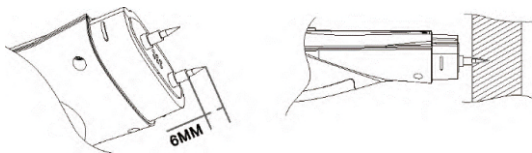

Figure 1
- ③ Take off the cover of the test probe sensor and insert it vertically into the wood sample till the 6mm depth limit of the probe (See Figure 1);
- ④ Wait till the value stays stable, then the value shown on the screen should be the moisture content of the wood sample.
- ⑤ During the measuring process, the MAX and MIN value measuring and value hold function can be enabled or disabled according to the icon instructions.
- ① Short press button to turn it on;
- ② Choose paper packaging or wall measurement mode.
- ③ Take off the cover of the test probe sensor and insert it vertically into the paper or wall sample till the 6mm depth limit of the probe (See Figure 1); (If it is not possible to